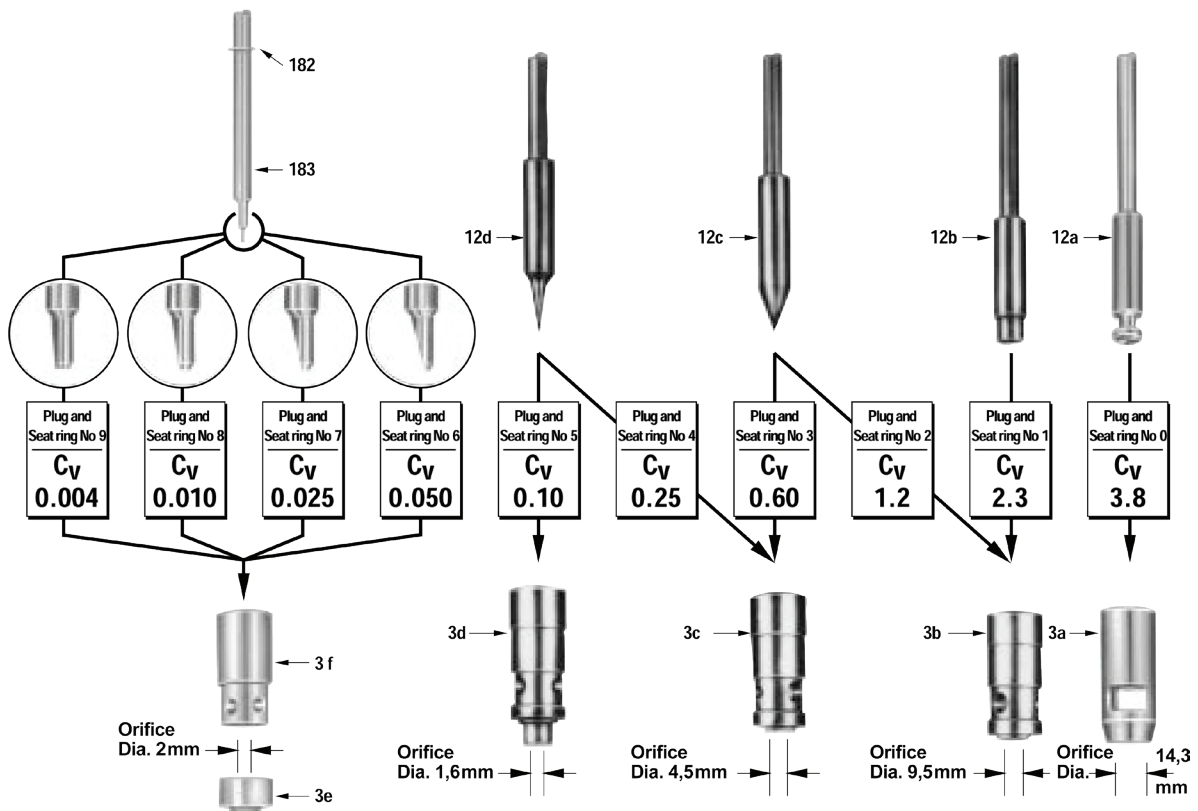

Figure 2 - Ten plug and seat ring assemblies (Trim)
Eight plugs and five seat rings can be used in combination to obtain ten different plug and seat ring assemblies (See Figure 2).
Each plug design and the seat ring orifice diameter permit to identify parts in relation to Figure 2.
See Figure 2 to select the plug and seat ring combination to obtain the required C_v .
2. Complete sub-assembly includes: Plug-stem (183), Retaining ring (182), Seat ring (3e) and Spacer (3f). See Figure 2.
- Insert the plug-stem (12 or 183) into the seat ring (3). For a $C_v < 0.10$, ensure that there is no binding during the stroking of the plug. If binding occurs, loosen the retainer (4) and replace the seat ring (3e) in the correct position until the stem smoothly slides.
- Slide spacer (5) aligning the hole in the spacer with the safety pin (11) hole in the valve body.